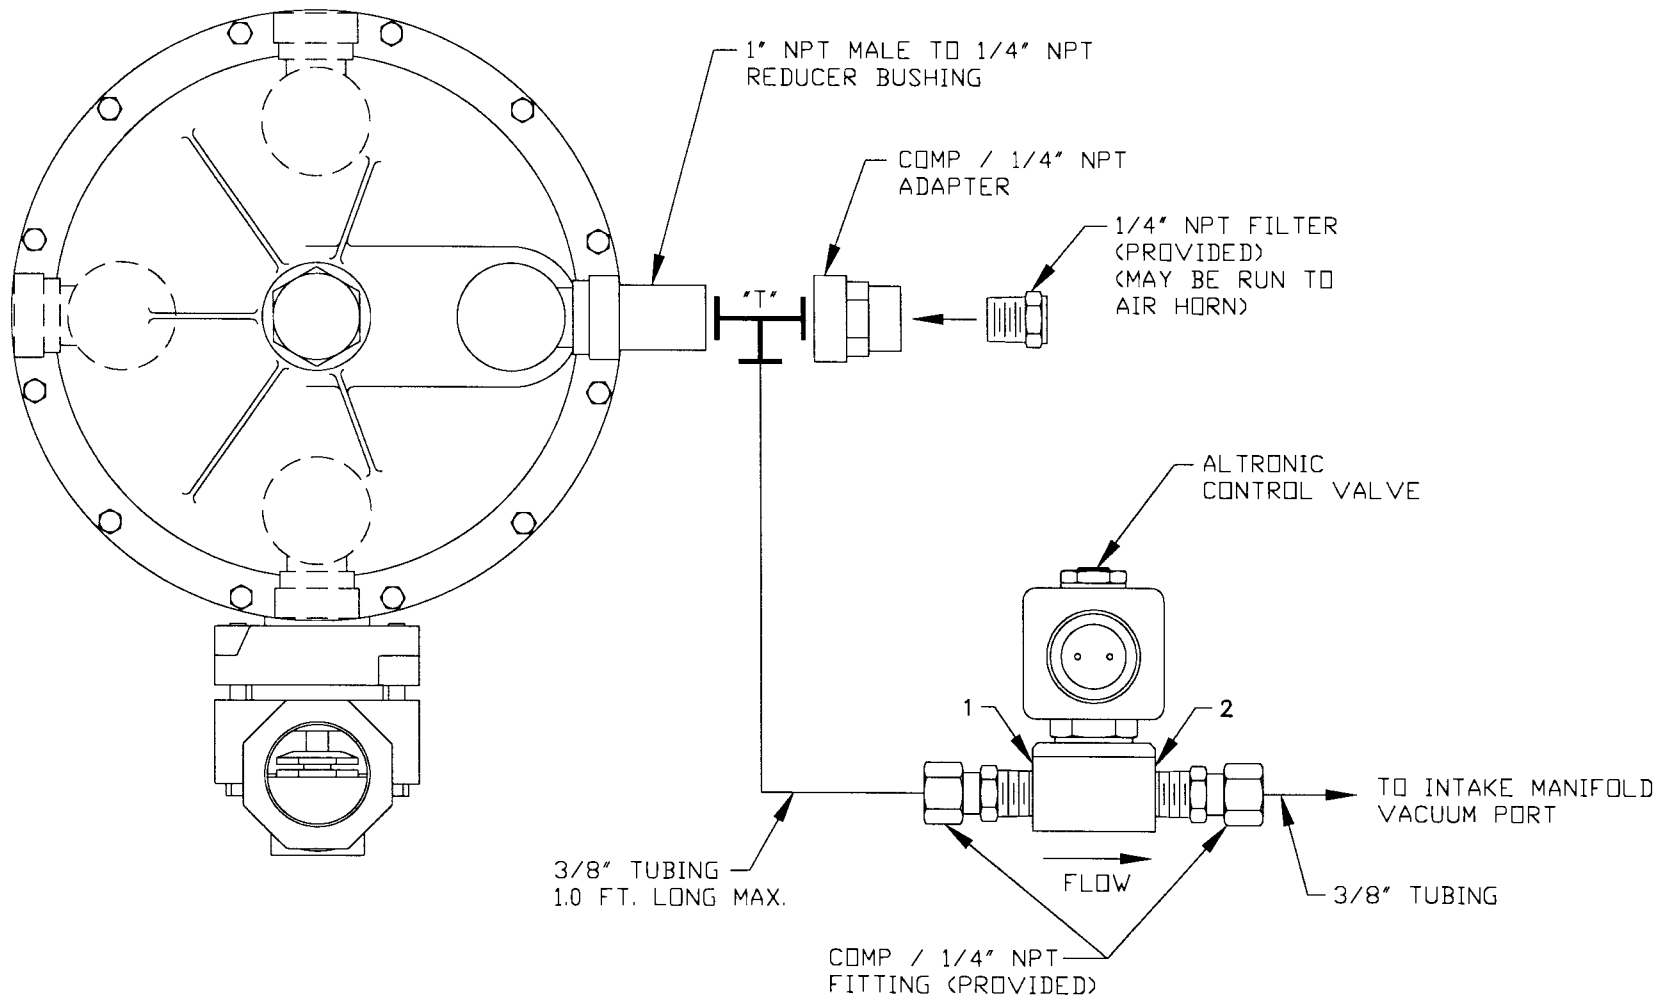

FIG. 8
- Figure 8: NATURALLY ASPIRATED WITH FISHER 200 SERIES REGULATOR - Naturally aspirated engine applications use the engine intake manifold vacuum for biasing the regulator. The provided filter should be located as per the drawing as close to the "T" as possible. The filter may be eliminated with a line plumbed to the air horn used instead. This is the preferred method to provide a completely closed system which will eliminate possible contamination of the vent port.